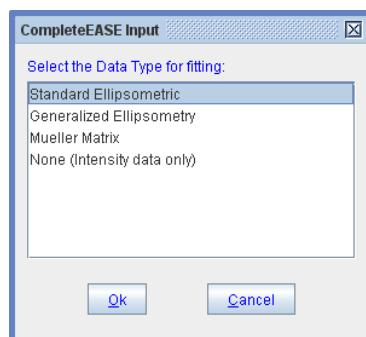

Figure 8-48. Choose the selected data type to use during fit.
Choose which type of data to include in the Fit. Choices include Standard Ellipsometry (SE), generalized-SE, Mueller-matrix, and Intensity data only, as shown in Figure 8-48.